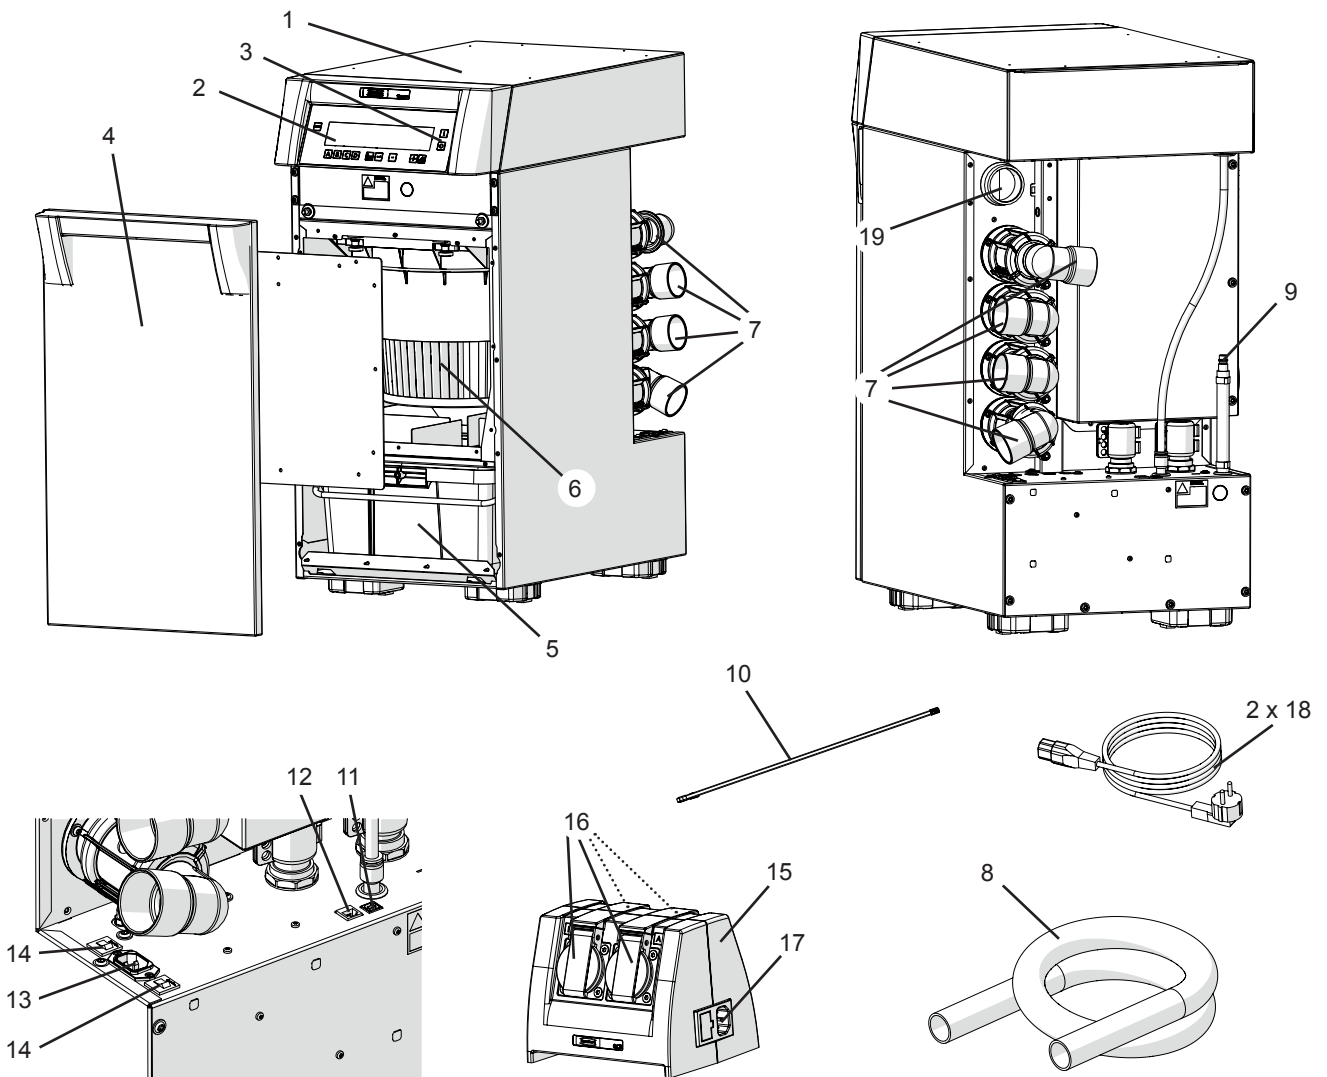

Fig. 1
- ▶ The appliance socket connections in the Quattro Control-Box (15, Fig. 1), are only for use as described in the Instructions for Use. If other electrical appliances are connected, this may cause damage.
⇒ Insert the cool air tube into the cool air connection (19, Fig.1).
⇒ Switch the device OFF at the On / Off switch (3, Fig.1)
On the device, the compressed air tube is sealed (9, Fig. 1).